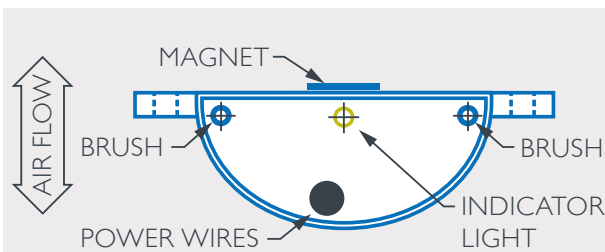

FIGURE 1
2. Mount unit at or near the fan inlet ensuring air stream flows over the two brushes simultaneously. See figures 1 & 2.